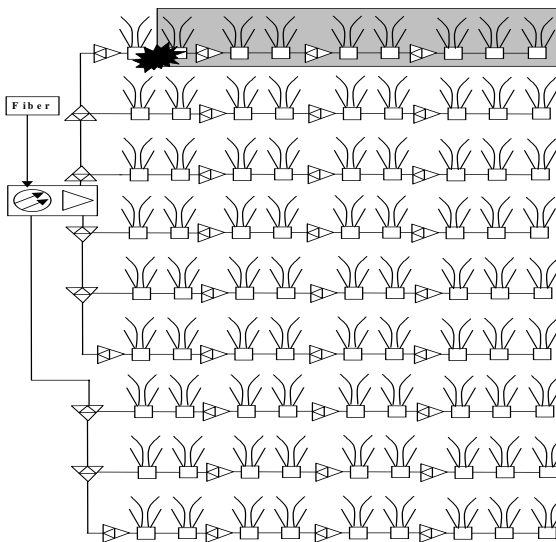

Fig. 5-1 Customers Affected by a Forward Path Ingress Source
- **Accumulation of Noise:** Accumulation of noise means that problems compound far more quickly than in the forward path. In a forward path network, noise or interference generated at one point in the network affects everyone "downstream" from the noise source (see Fig. 5-1).